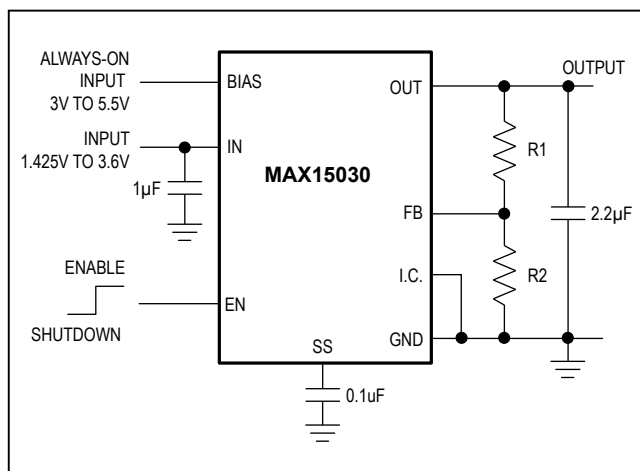

Figure 1. MAX15030 Typical Application Circuit
(Circuit of Figure 1;  $V_{IN} = 1.8V$ ,  $V_{OUT} = 1.2V$ , EN = IN for MAX15029, EN = BIAS for MAX15030,  $I_{OUT} = 100mA$ ,  $T_A = T_J = -40^{\circ}C$  to  $+125^{\circ}C$ . Typical values are at  $T_A = +25^{\circ}C$ , unless otherwise noted.) (Note 2)
(Circuit of Figure 1,  $V_{IN} = 1.8V$ ,  $V_{OUT} = 1.5V$ ,  $I_{OUT} = 500mA$ ,  $T_A = +25^{\circ}C$ , unless otherwise noted.)
(Circuit of Figure 1,  $V_{IN} = 1.8V$ ,  $V_{OUT} = 1.5V$ ,  $I_{OUT} = 500mA$ ,  $T_A = +25^\circ C$ , unless otherwise noted.)
**Typical Operating Characteristics (continued)**(Circuit of Figure 1,  $V_{IN} = 1.8V$ ,  $V_{OUT} = 1.5V$ ,  $I_{OUT} = 500mA$ ,  $T_A = +25^{\circ}C$ , unless otherwise noted.)**Pin Configurations**
The MAX15029/MAX15030 feature an adjustable output voltage from 0.5V to  $V_{IN}$  using two external resistors connected as a voltage-divider to FB, as shown in Figure 1. The output voltage is set by the following equation: